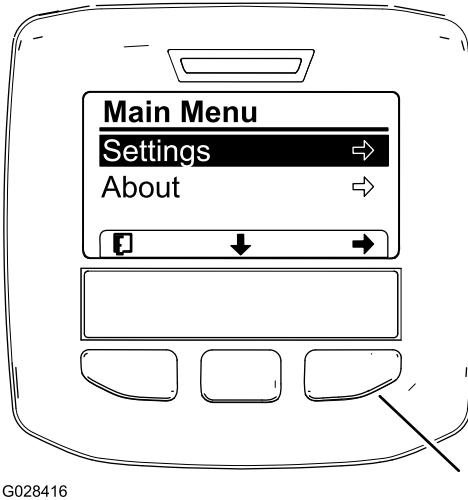
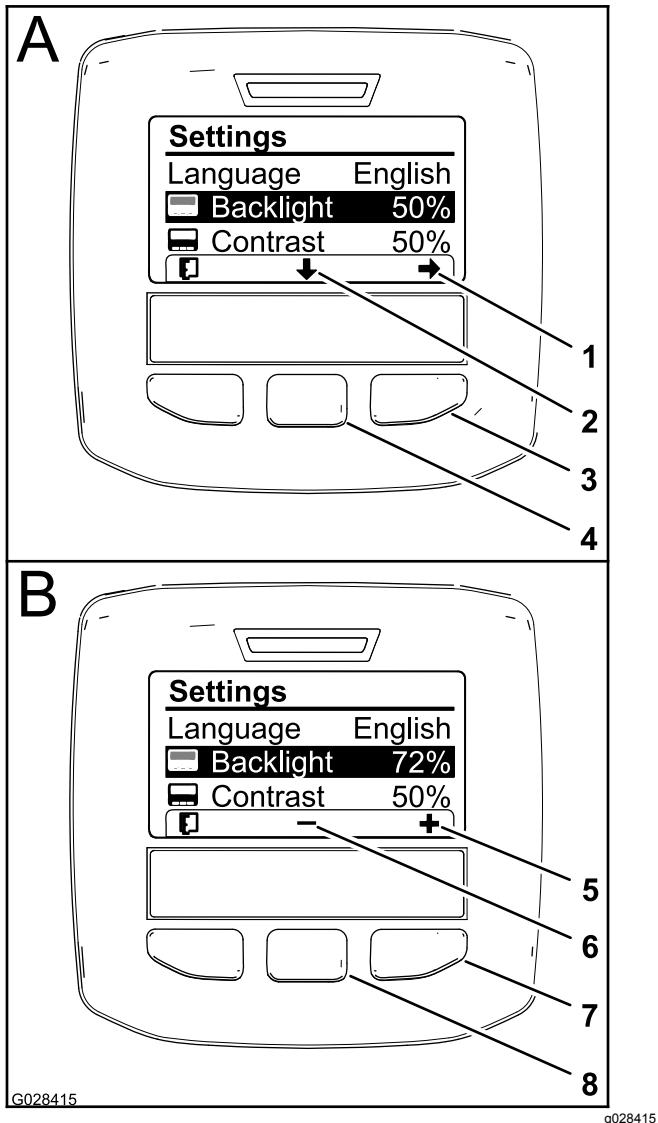

Figure 62
Figure 64
3. Press the center selection button to access the Main Menu (Figure 62).
5. Press the left selection button to save your selection(s), exit the Settings menu, and return to the Main Menu (Figure 62).
2. To adjust the backlight level of the display, press the center selection button (the button below the down arrow icon in the display) to move the selected option down to the Backlight setting (Figure 64).
3. Press the right selection button to display the value adjustment context (Figure 64).
4. Use the center selection button and right selection button to change the brightness level of the display (Figure 64).
selection, exit the Backlight menu, and return to the Settings menu (Figure 64).
6. To adjust the contrast level of the display, press the center selection button (the button below the down arrow icon in the display) to move the selected option down to the Contrast setting (Figure 64).
7. Press the right selection button to display the value adjustment context (Figure 64).
8. Press the left selection button (the button below the list icon in the display) to save your selection, exit the Contrast menu, and return to the Settings menu (Figure 64).
9. Press the left selection button to exit the Settings menu and return to the Main Menu (Figure 62 and Figure 64).
10. Press the left selection button to return to the Home screen (Figure 64).